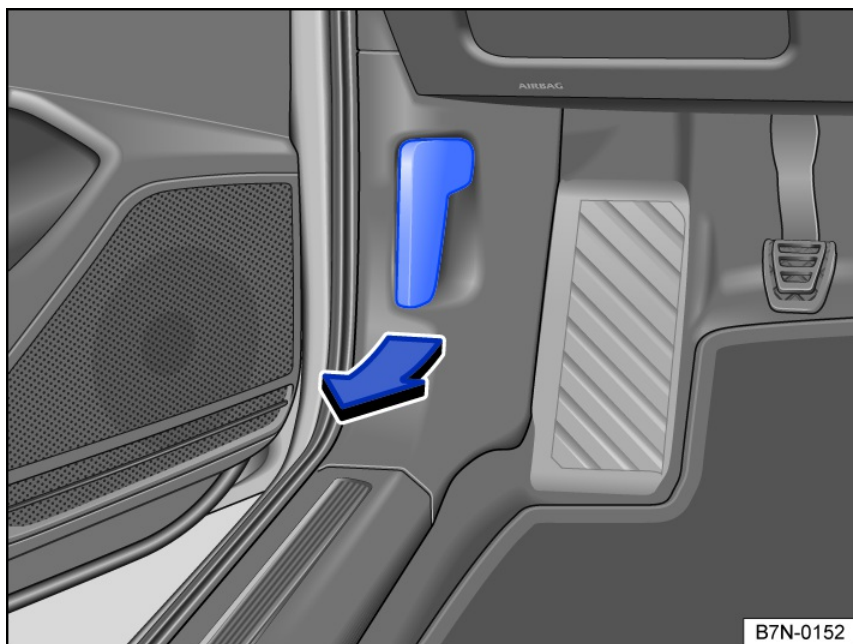

Fig. 189 In the driver's side footwell: release lever for the hood.
- Open the driver's door and pull the release lever in the direction of the arrow fig. 189. The hood will pop open due to spring force from the locking mechanism in the lock carrier ⇒ ⚠.
- Lift the hood, press the opening lever, and open the hood all the way fig. 189. The hood is held open by the gas-filled strut.